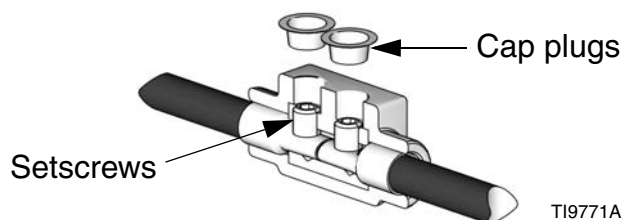

FIG. 10
When torqued to 60 in-lbs (6.78 N•m) setscrews will be approximately flush with connector. See FIG. 10.
- f. Insert cap plugs over setscrews. See FIG. 10.